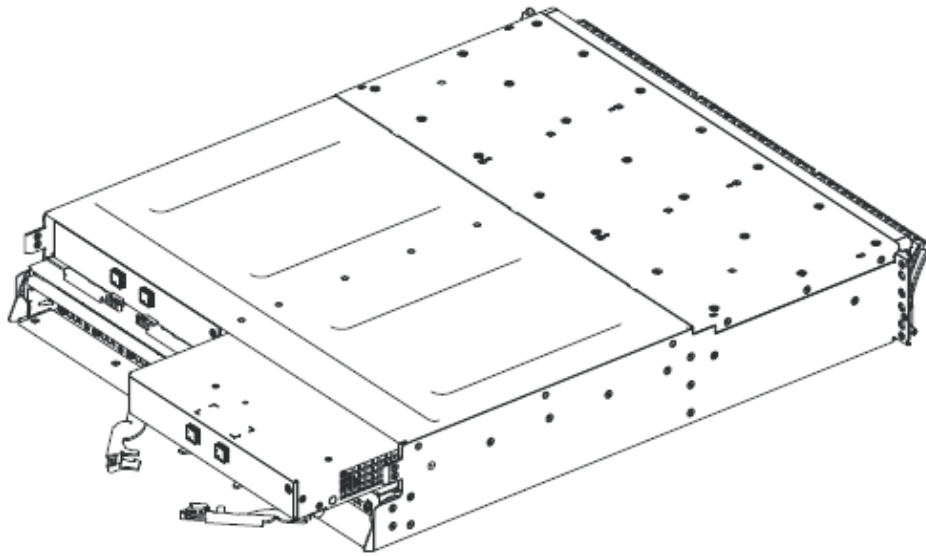

Figure 79. Removing and replacing the Storwize V7000 Gen2 expansion canister
6. Open the two release levers as shown in Figure 79 on page 297. The canister moves out of the slot approximately 0.6 cm (0.25 inch).